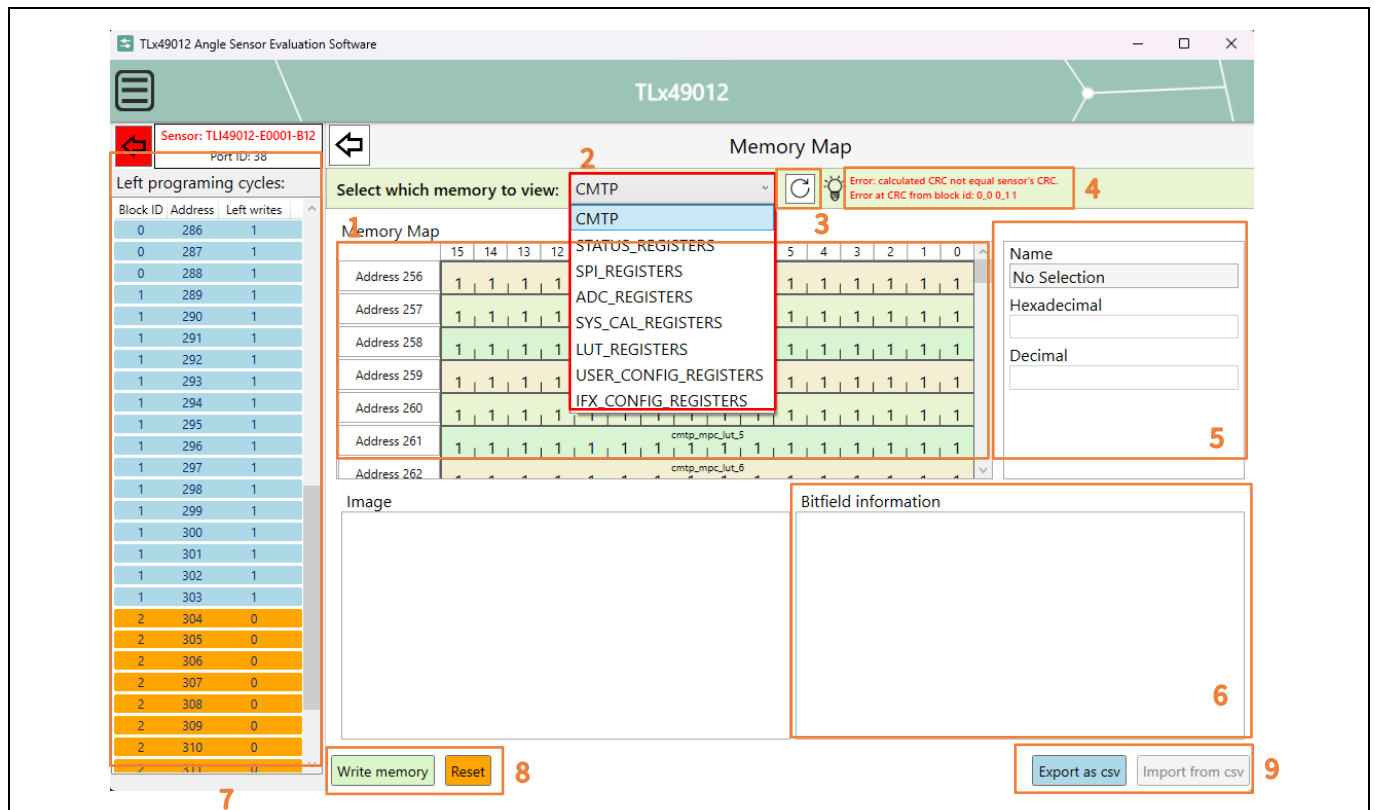
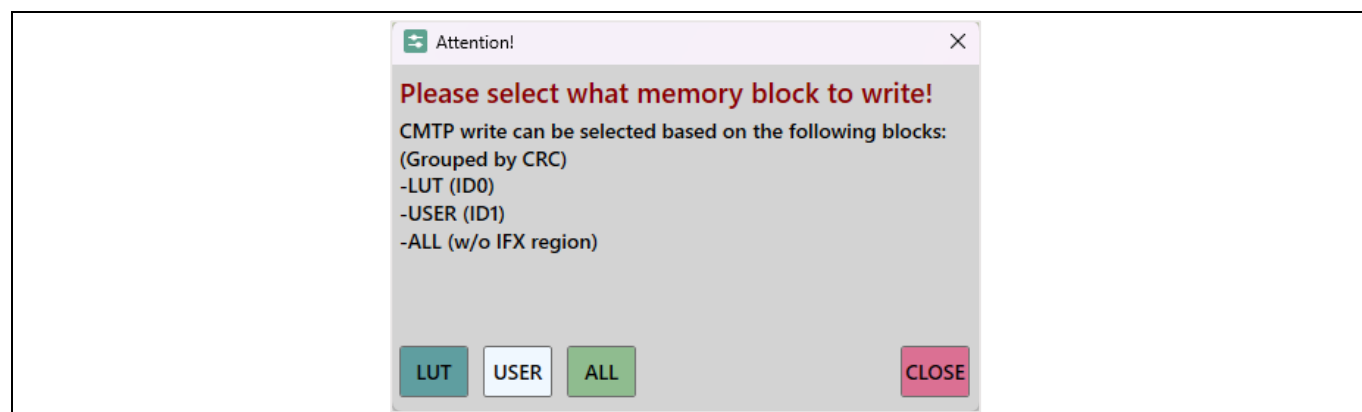

Figure 56 Software usage – Memory Map view
Figure 59 Software usage – CMTMP writing selection
The **Memory Map** view is accessible by clicking the corresponding button in the software main menu. The open view is shown in Figure 56.
The **Memory Map** view functionalities and features can be divided into the following groups, highlighted in Figure 56:
The **Memory Map** view offers a way to change the contents of the volatile memory of the sensor and view the effects it has on the operation of the sensor. The LUT of the sensor can be viewed by clicking the LUT_REGISTERS selection in the drop down (2) as shown in Figure 56. The values stored in the LUT within the internal memory are not accessible all at once. Instead, an indexing approach is used to access these values.
The CMTTP/NVM memory of the sensor can be grouped into blocks, based on the information they contain, each protected by CRC. The block identification can be found under the "Block ID" column in the left programming cycles as seen in (7) of Figure 56 and are assigned as such:
You can only write Block 0 and 1 for a limited number of times, Block 2 being fused from the factory. A virgin CMTTP line is read as 0xFFFF. Configurations in the CMTTP must be manually done by selecting the bitfield or line and writing the desired values in the control textbox (5) as shown in Figure 56. Reserved or unused bitfields must be set to zero. Alternatively, the CMTTP can be imported via the **Import from csv** button. This automatically checks and loads a .CSV file from you. This .CSV file is first checked and rejected if any problems arise. You can get .CSV files by exporting them from this menu, or from the **CMTTP Configuration** tab from the **Extended Sensor Configuration** window.
Write the CMTTP memory with the data by clicking the **Write Memory** button (8) as shown in Figure 56. This will recalculate the CRC for each block. You will be prompted to select which part of the CMTTP to be written as seen in Figure 59. Software checks available write cycles for each line and for each CRC of each block, in case of any inconsistencies the operation is aborted.